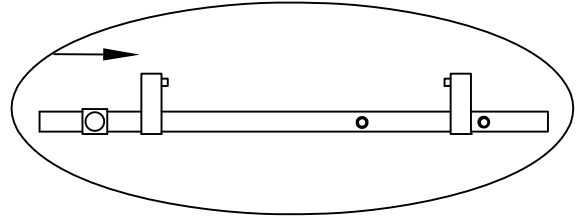
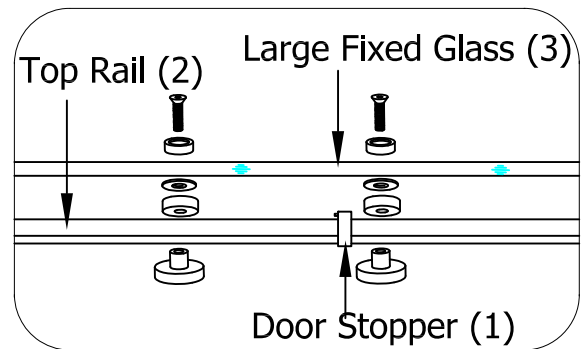

Fig. 8
Fig. 9
- Slide the Small fixed Glass Bolt Assembly (21) onto end of Top Rail(2) opposite the Large Fixed Glass connection hardware. See Fig.8 for details.
- Position the Top Rail (2) and Large Fixed Glass (3) as shown in Fig.8 and connect Large Fixed Glass (3) to Top Rail (2) following the assembly sequence shown in Fig.8. Note in Fig.9, one Door Stopper (1) should be positioned between mounting holes in Top Rail (2) before connecting Top Rail to Large Fixed Glass.